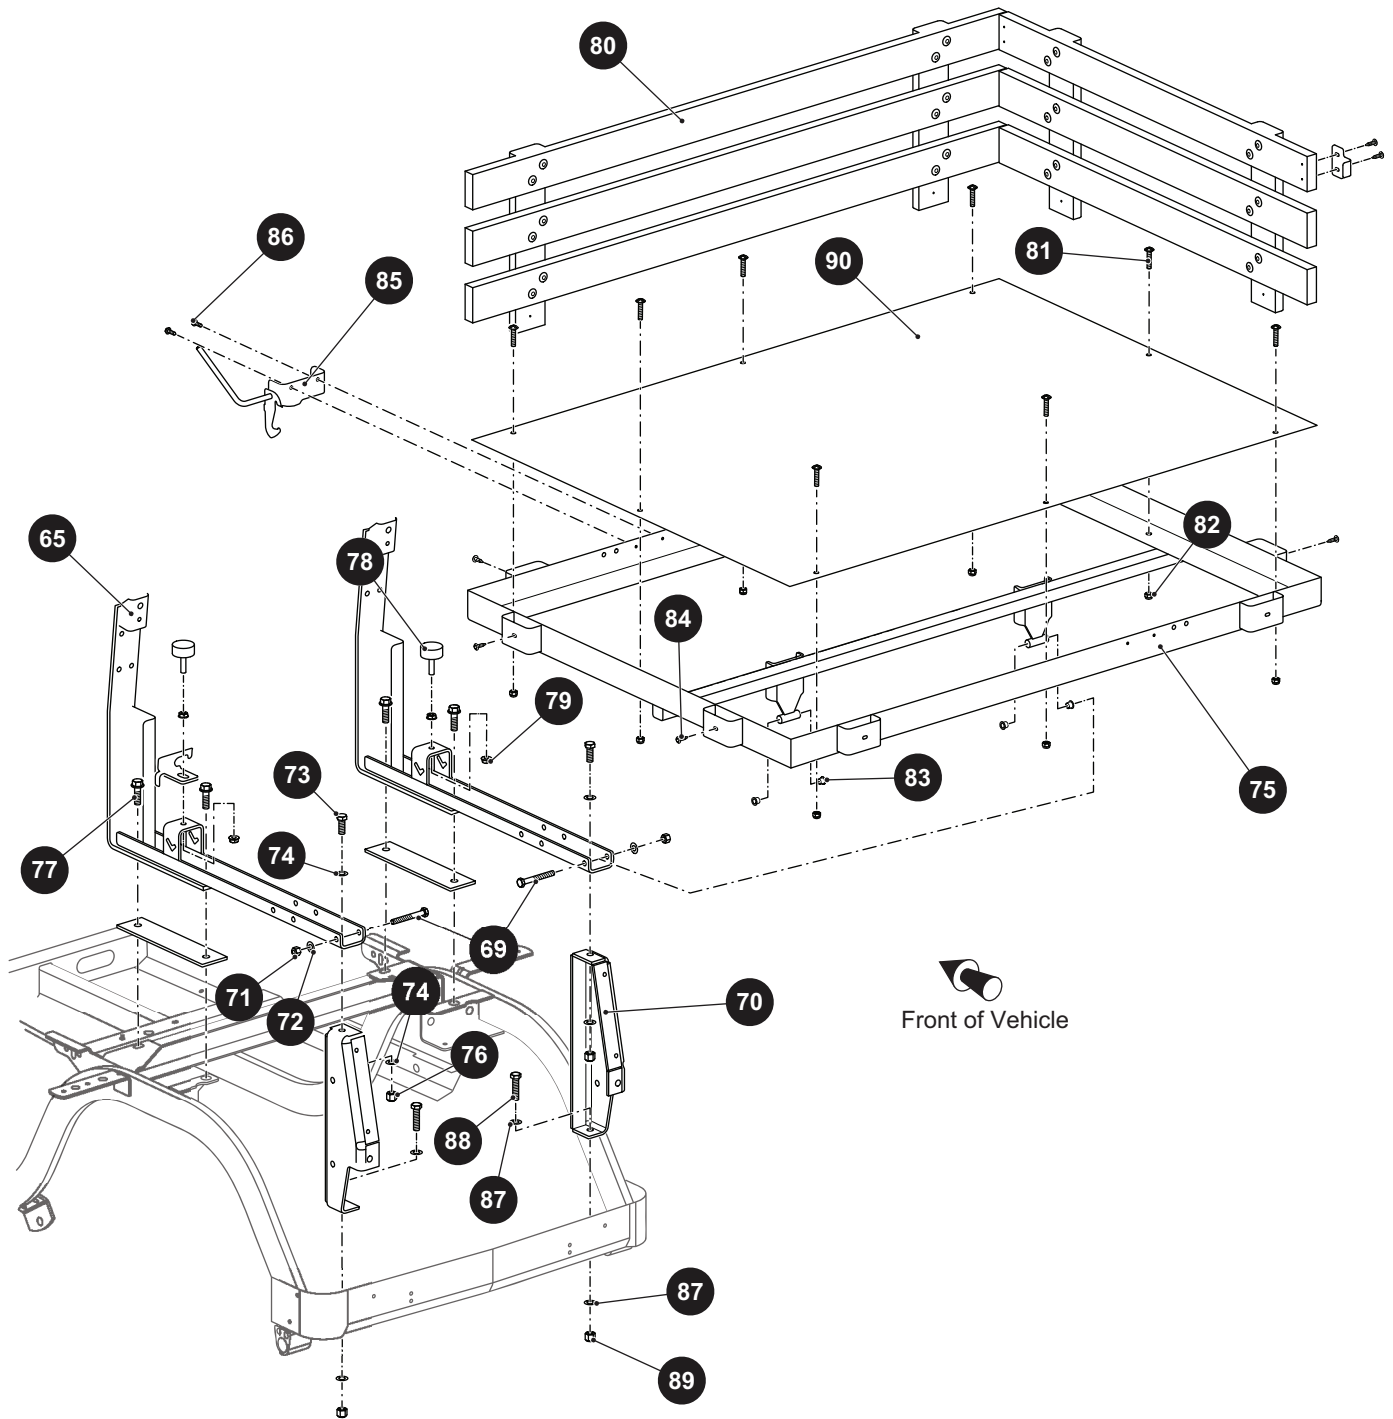

Fig. 13 Truck Bed
2. Remove the screws (84) securing the sides (80) of the bed to the bed frame (75) (Ref Fig. 13).
4. If the deck (90) is damaged, remove the lock nuts (82) and screws (81) securing the deck of the bed to the bed frame.
5. If the latch (85) is damaged remove the screws (86) securing it to the bed frame.
6. Remove the lock nuts (71), washers (72), and bolts (69) securing the bed frame to the seat support (65).
7. Inspect the bushings (83), and replace them if necessary.
8. Inspect the bumpers (78) and replace them if necessary by removing the lock nuts (79) securing them to the seat support.
10. Re move the lock nuts (76), washers (74), and bolts (73) securing the seat support to the support brackets (70).
11. Remove the bolts (77) securing the seat support to the frame.
12. Remove the lock nuts (89), washers (87), and bolts (88) securing the support brackets to the frame.